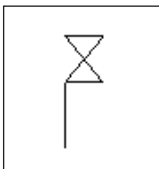

Figure 6-1: The completed gate valve symbol
14. Save your drawing. It should look like Figure 6-1.